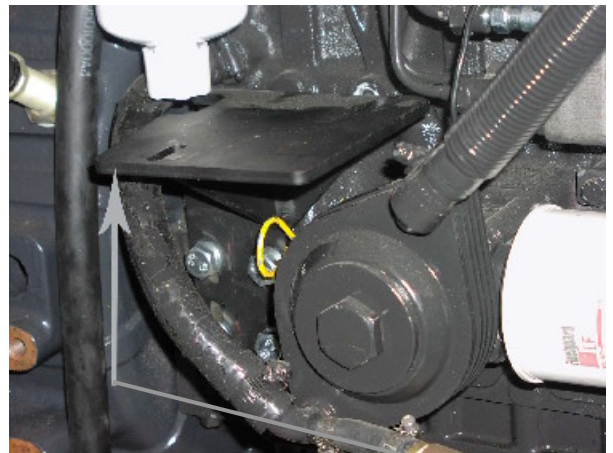

Figure 4 – Slide Bracket in direction of arrow before tightening mounting bolts.
Notice that the mounting holes on the bracket are slotted. Once all bolts are in, slide the bracket up, vertically, so that the bottom bolts are seated at the bottom of their respective slots and then tighten the bracket mounting Bolts (2) to 33 ft. lb. See Figure 4.